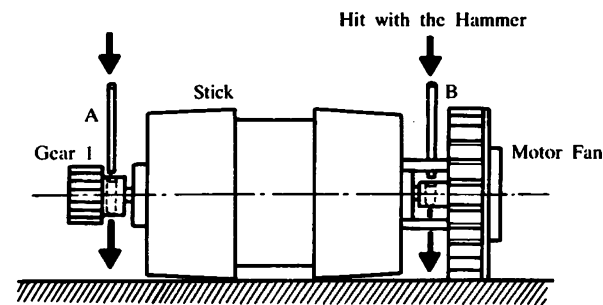

Fig. 21
- (2) Take out the Spring pin (AW 2.5) by using the stick ($\phi = 2.0$ m/m) and the hammer. The Gear 1 will come off. (Refer to A in Fig. 21)
- (3) Take out the Spring pin for the Fan in the same way as the step (2). (Refer to B in Fig. 21)